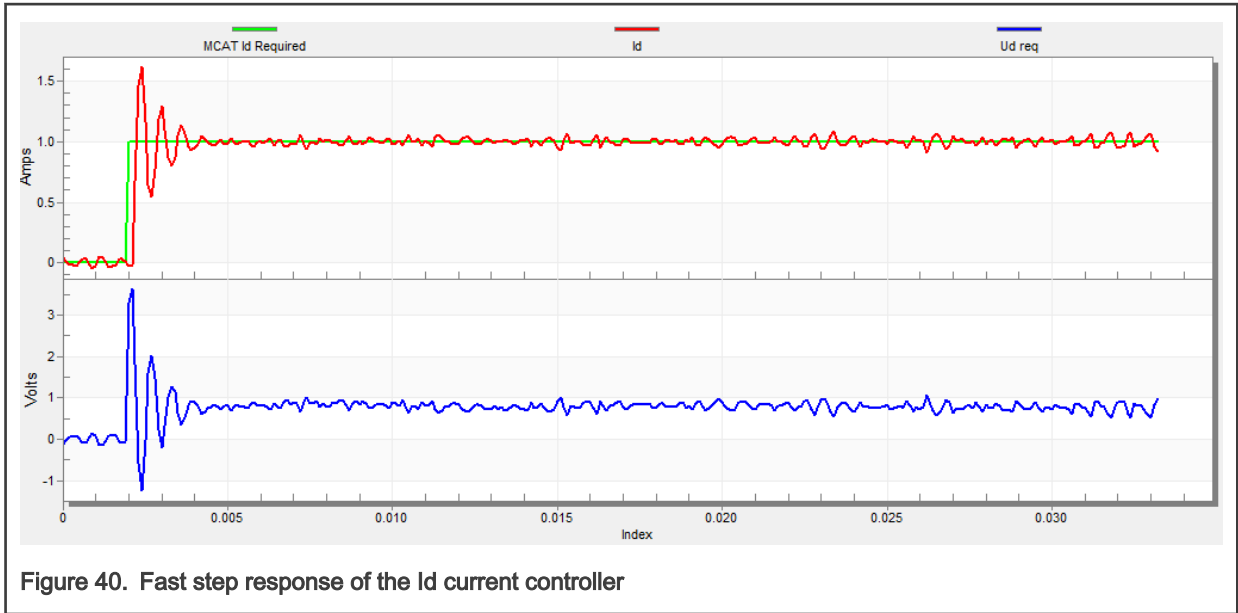

Figure 40. Fast step response of the Id current controller
- The loop bandwidth is high (700 Hz) and the response time of the Id current is very fast, but with oscillation and overshoot (see Figure 40).